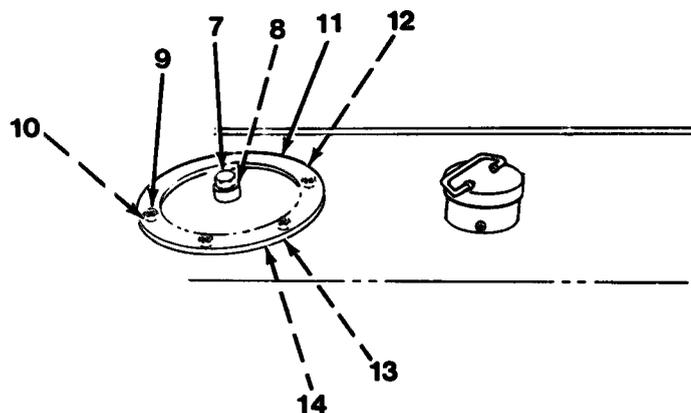

Figure 3-7
- c. Remove plug (7), O-ring (8), eight nuts (9), washers (10), cover (11) and O-ring (12, Figure 3-7).
- d. Remove filter (13) and O-ring (14) from reservoir.
- a. Install O-ring (14) and filter (13, Figure 3-7).
- b. Install O-ring (12), cover (11), eight washers (10), nuts (9), O-ring (8) and plug (7).
- d. Bleed out all air by loosening plug (7). Tighten plug (7).